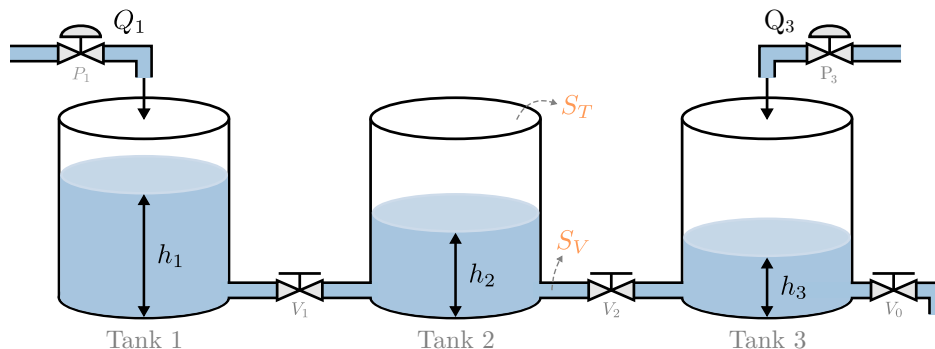

Figure 1: Three-Tank System: Process layout.
Consider again the benchmark Three-Tank System from Homework 1 (Figure 1): The process consists of three cylindrical tanks (T_i , $i = 1, 2, 3$) connected by two fixed valves (V_i , $i = 1, 2$), with an outflow valve V_0 for the last tank. The liquid levels (h_i , $i = 1, 2, 3$) in each tank are controlled by manipulating the incoming flow-rates to tanks T_1 and T_3 through the pumps P_1 and P_3 , respectively.
Execute `E03A_main.m` and `E03B_main.m`, and report the results. Compare the optimisations (*objective value, execution time, etc.*) and interpret the optimal state- and control-trajectories in terms of the physical system (Figure 1), given the controller tuning (i.e., the weights Eq. (4)). Finally, change the linearisation point to $x_p = (0, 30, 60)$ and $u_p = (0, 0)$ and re-run `E03B_main.m`: Does the performance of the LQR change? Why?